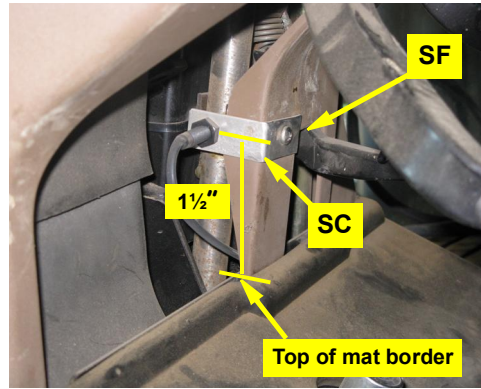

Figure 3: Installed sensor/sensor bracket
- b. Using self-tapping screw **SF** (provided) attach aluminum bracket/sensor **SC/SD** to the plastic cover (Figure 3).